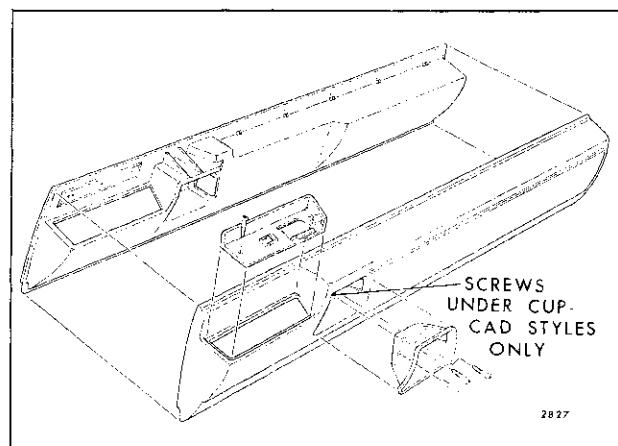

Fig. 14-11—Door Arm Rest — Cadillac Styles
5. On Cadillac styles, Pontiac 26200 series styles and "E" body styles, remove screws securing remote control cup (Fig. 14-11) and remove cup. On Cadillac styles only, remove screws previously hidden by cup which secure arm rest base to door inner panel (Fig. 14-11).